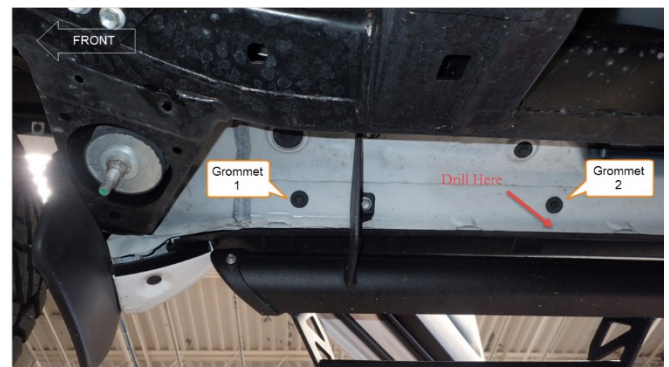

Figure 3
4. Measure and drill locations for the front light pod brackets using 11/64" drill bit. The brackets should be in line with the second grommet from the front (Figure 3).